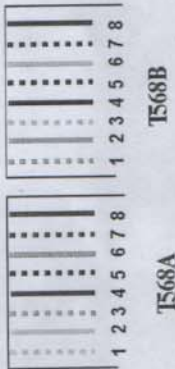

Fig.3 The type of UTP
5.1.2 Check the type of UTP (see fig.3)